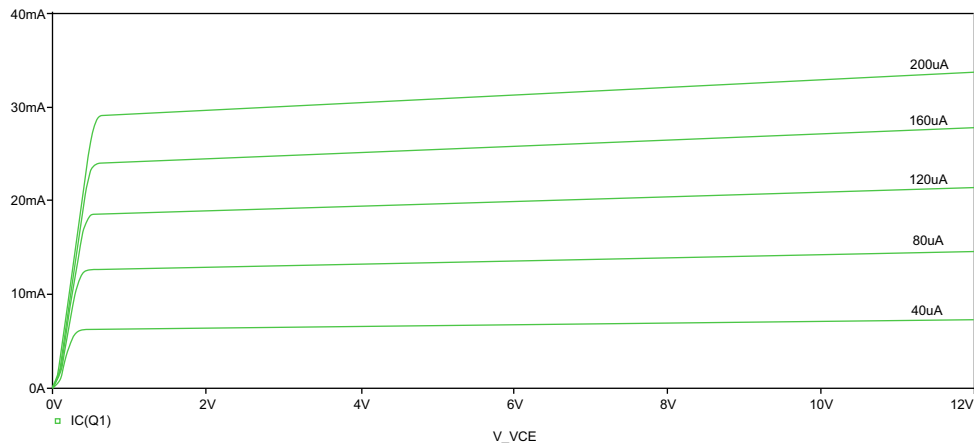

FIGURE 3.26
13. Select **Plot > Label > Text**, change the font color to silver and add the base currents as shown in Figure 3.26.